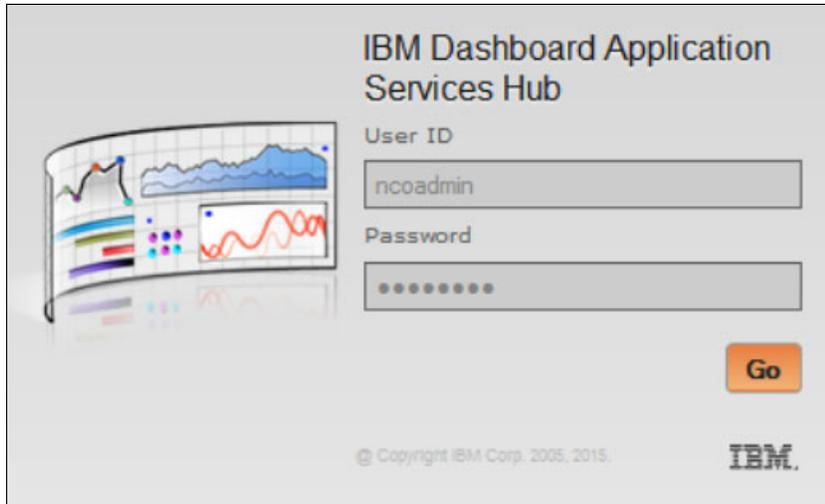

Figure 2-15 Log in prompt into Dashboard
1. Log in to the Dashboard Application Services Hub, as shown in Figure 2-15.